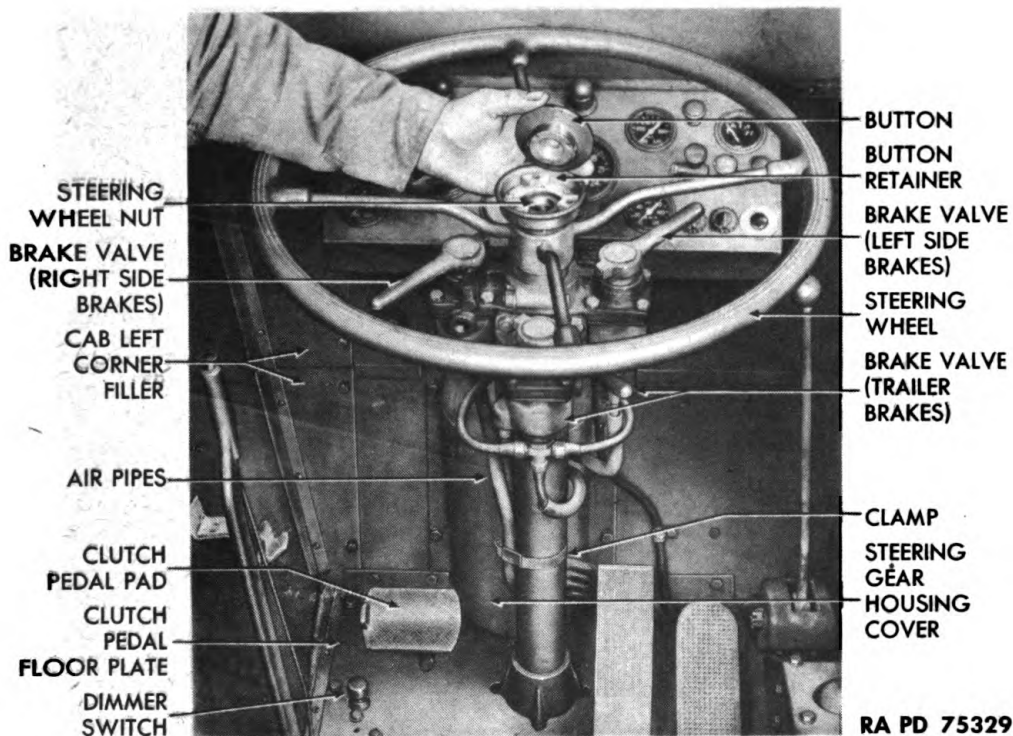

Figure 10 – Removing Steering Wheel Button
a. Remove Steering Wheel and Air Valves (fig. 10). Remove button in center of steering wheel by pressing down on button while simultaneously turning button in either direction. Lift button off, remove three screws that hold button retainer, and remove retainer. Remove steering wheel nut, and pull wheel up and off column. Remove two bolts, nuts, and lock washers which hold right and left air valve bracket to steering column. Remove two bolts, nuts, and lock washers that hold trailer air valve bracket to steering column. Loosen clamp that holds air pipes to steering column, and lower valves to cab floor.
b. Remove Steering Gear Housing Cover (fig. 10). Remove cab left corner filler by removing five cap screws and lock washers and two nuts and lock washers from two bolts. Remove steering gear housing cover by removing five cap screws and lock washers, then remove bolt, nut, and lock washers that holds clutch pedal pad on clutch pedal and remove pad.
c. **Remove Clutch Pedal Floor Plate and Steering Gear Bottom Cover** (figs. 10 and 11). Remove five cap screws and lock washers that hold clutch pedal floor plate to floor, and remove two cap screws that hold dimmer switch in place. Lift floor plate off floor and over clutch pedal. Remove bolts, nuts, and lock washers that hold steering gear bottom cover on frame and remove cover.
e. **Install Housing Cover and Cab Left Corner Filler (fig. 10).** Install steering gear housing cover and fasten with five cap screws and lock washers. Fasten cab left corner filler by installing five cap screws and lock washers, also two nuts and lock washers.
f. **Install Air Pipes and Steering Wheel (fig. 10).** Install air pipes under clamp on steering column and tighten clamp. Connect trailer air valve to steering column with two bolts, nuts, and lock washers. Install steering wheel, and fasten with steering wheel nut. Install button retainer, and fasten with three screws. Install button.